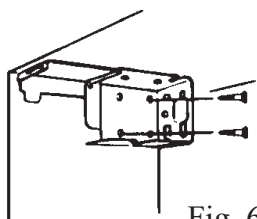
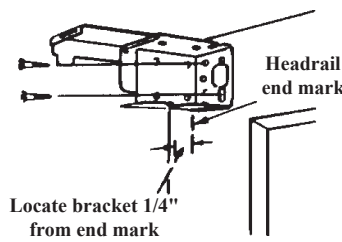
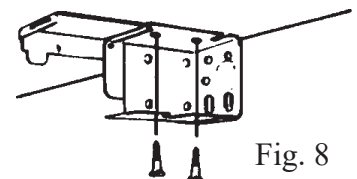

Fig. 6
Fig. 7
Fig. 8
- Typical installations for inside mounts are to the jamb (fig. 6) or the soffit (fig. 8) of the window frame. The screws should be diagonally located.
- Typical installations for outside mounts are to the window frame, or wall (fig. 7) or to the ceiling (fig. 8) through the top parallel screw holes.